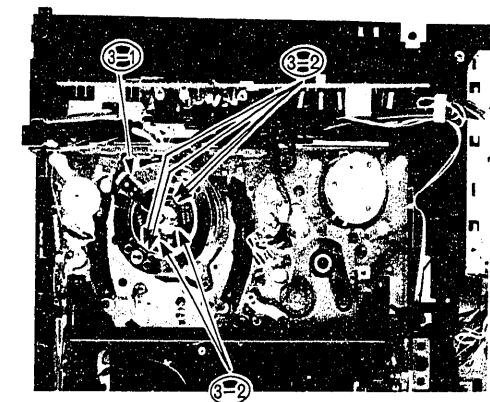

Fig. 23 Video Head (Upper Cylinder)
3. Video Head (Upper Cylinder) (Fig. 23)